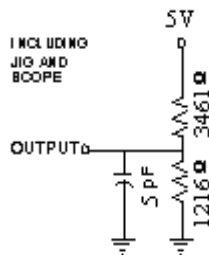

FIGURE 1B
6. Transition is measured $\pm 500mV$ from steady state with $C_L = 5pF$ as shown in Figure 1B. The parameter is guaranteed but not 100% tested.
10. Transition is measured $\pm 500mV$ from steady state with $C_L = 5pF$ as shown in Figure 1B. The parameter is guaranteed but not 100% tested.